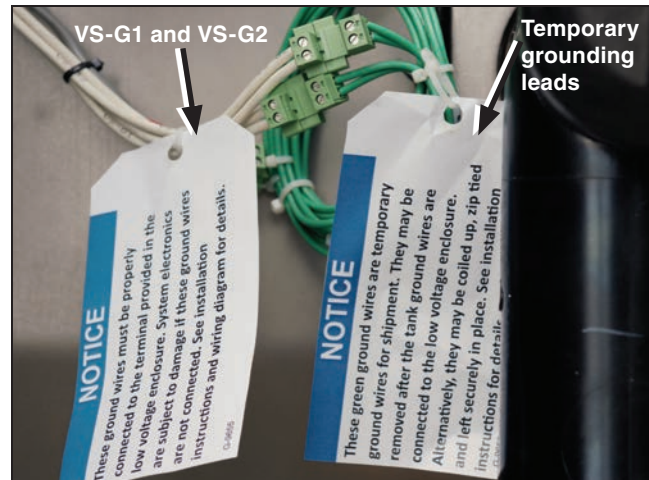

Figure 22. Review the Notice tags for temporary grounding leads and VS-G1 and VS-G2 ground wires.
- (c) There will be up to three pairs of ground wires, VS-G1 and VS-G2, that are included in the main enclosure. See your wiring diagram for details. VS-G1 and VS-G2 wires are marked with a hanging Notice tag. Disconnect the VS-G1 and VS-G2 ground wires from the temporary grounding leads and route them into the low-voltage enclosure. The temporary grounding leads are green wires on the tank marked with a hanging Notice tag. See Figure 22. The temporary green wires can then either be removed or coiled, zip tied and left in place.